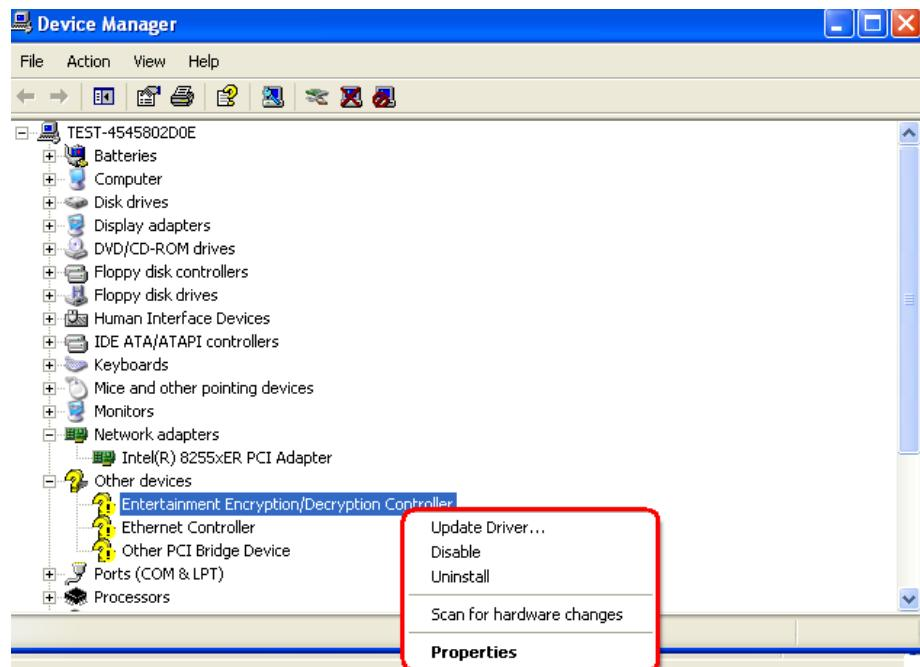

Figure 7-35: Update Entertainment Encryption/Decryption Controller Driver Selection
Step 62: The small window in **Figure 7-35** appears.
Step 63: Select the **UPDATE DRIVER** option in the small window shown in **Figure 7-35**.